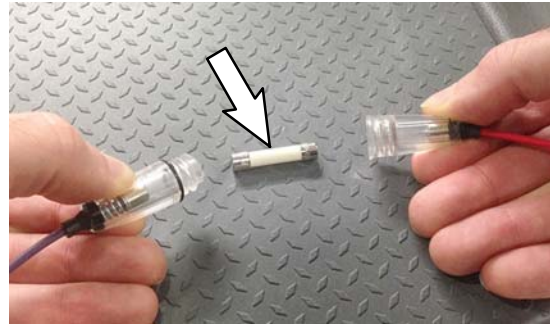

Fig. 22
22. Replace the inline fuse within the telemetry harness. (Fig. 22)